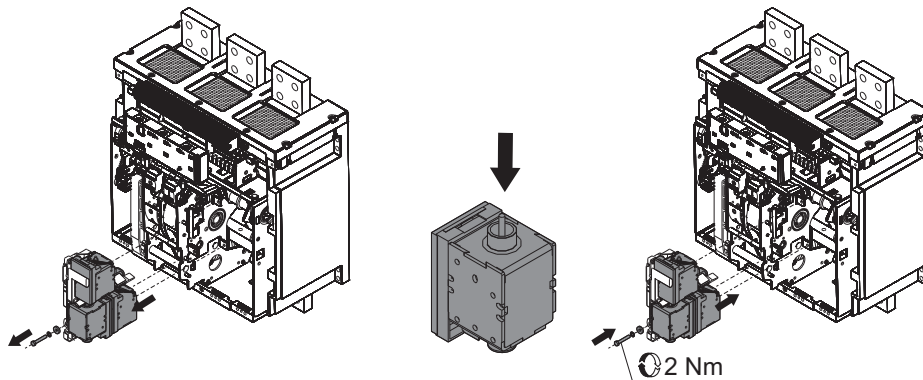

Fig. 22
- Make sure that the releases (SOR-UVR-SRC) are in good conditions (absence of excessive wear, overheating, breakages) Fig. 22.